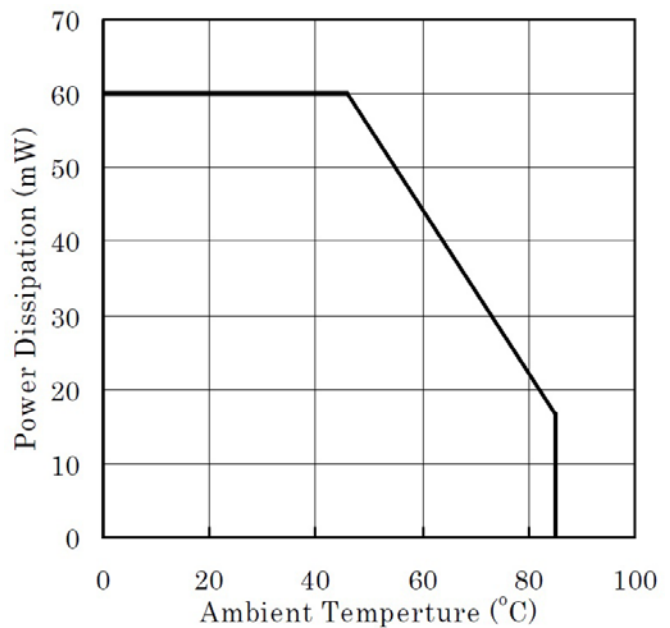

Figure.3
Figure.3 shows "Ambient temperature" vs. "Power Dissipation" of NECM325C.
89.5mW exceeds absolute maximum rating in Figure.3.
Total power dissipation of 39.63mW should be operated within 65 °C from Figure.3.